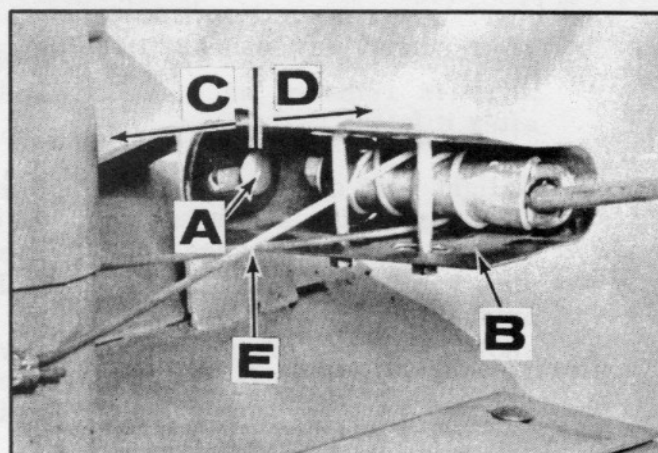

Fig. 13
Loosen carriage bolt (A); moving stack drive bracket (B) in direction of arrow (C) will loosen cable tension. Adjust bracket (B) in the direction of arrow (D) to tighten tension on cable (E) (See Fig. 13).